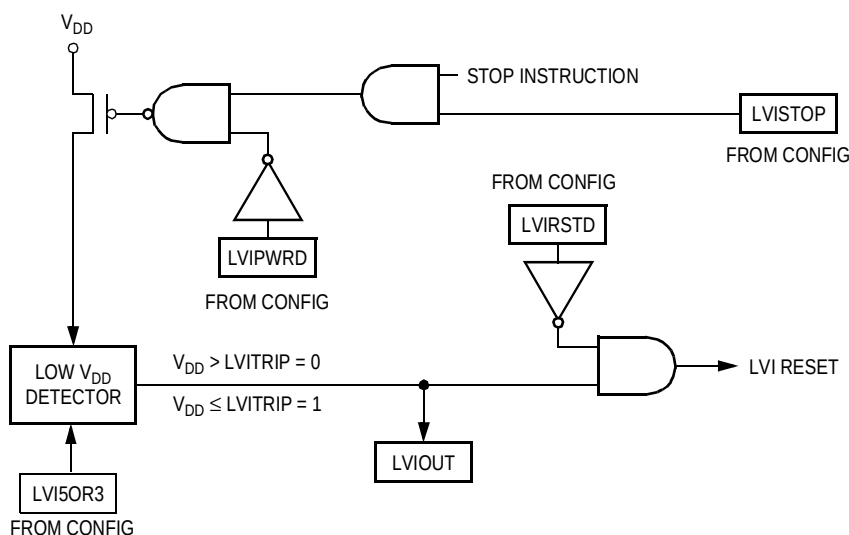

**Figure 16-1. LVI Module Block Diagram**
**Figure 16-1** shows the structure of the LVI module. LVISTOP, LVIPWRD, LVI5OR3, and LVIRSTD are user selectable options found in the configuration register (CONFIG1). See Section 5. Configuration Register \(CONFIG\).